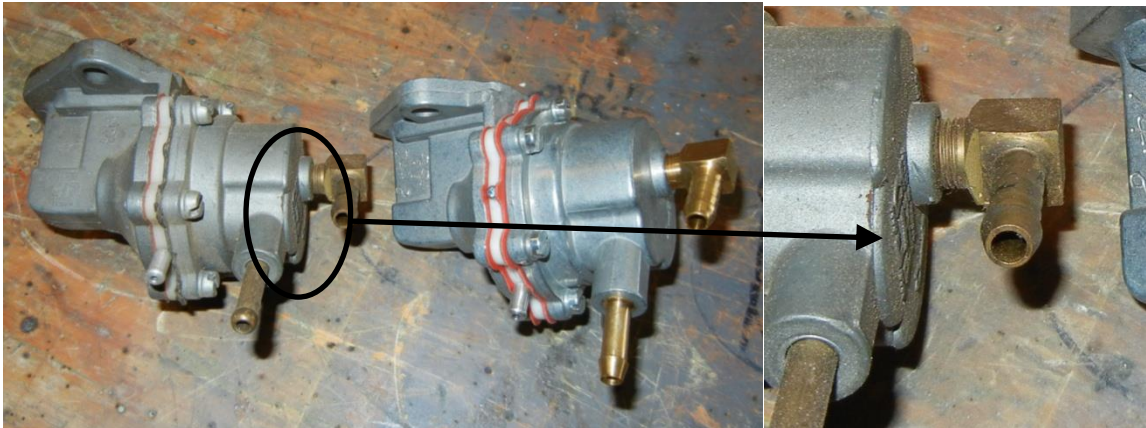

Figure 117 – Fuel Pumps (Type 1 on Left, Type 2 on Right)
- Two different fuel pumps have been used on Jabiru Engines – as shown in Figure 117. Note the cast emblems on the top of the pump on the left – this is a Type 1 pump while the other is a Type 2. Both pumps are driven by pushrods acting from a special lobe of the camshaft, however the Type 2 pump requires a different length pushrod to the Type 1: refer to Table 10 for lengths.